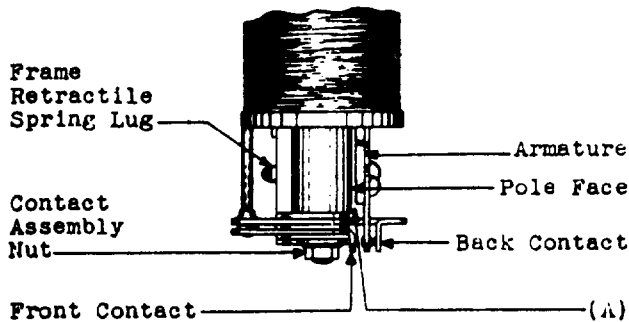

Fig. 3 - Unoperated Armature Air-Gap
2.06 Unoperated Armature Air Gap - Fig. 3 (A): Unless otherwise specified on the circuit requirement table the unoperated armature air gap shall be as specified in Table "A" below. The gap shall be measured at the point of minimum separation between the armature and pole face when the armature is touching the back contact. Use the Nos. 73A, B and 73D gauges. Disregard "Not enter" notation on the No. 73B gauge.